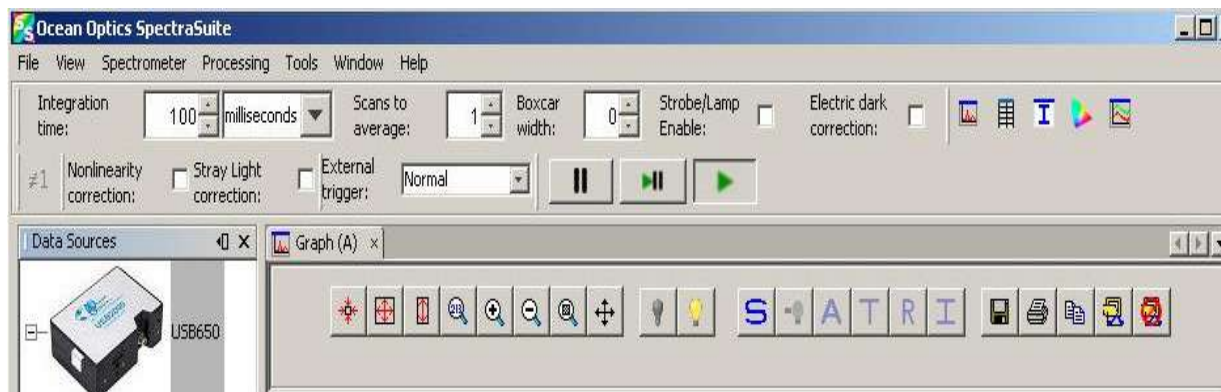

Figure 29: SpectraSuite Toolbar
1. Click the **Start** button, then select **All Programs | Ocean Optics | SpectraSuite |  SpectraSuite**. Figure 29 is the toolbar that will appear at the top of the screen.